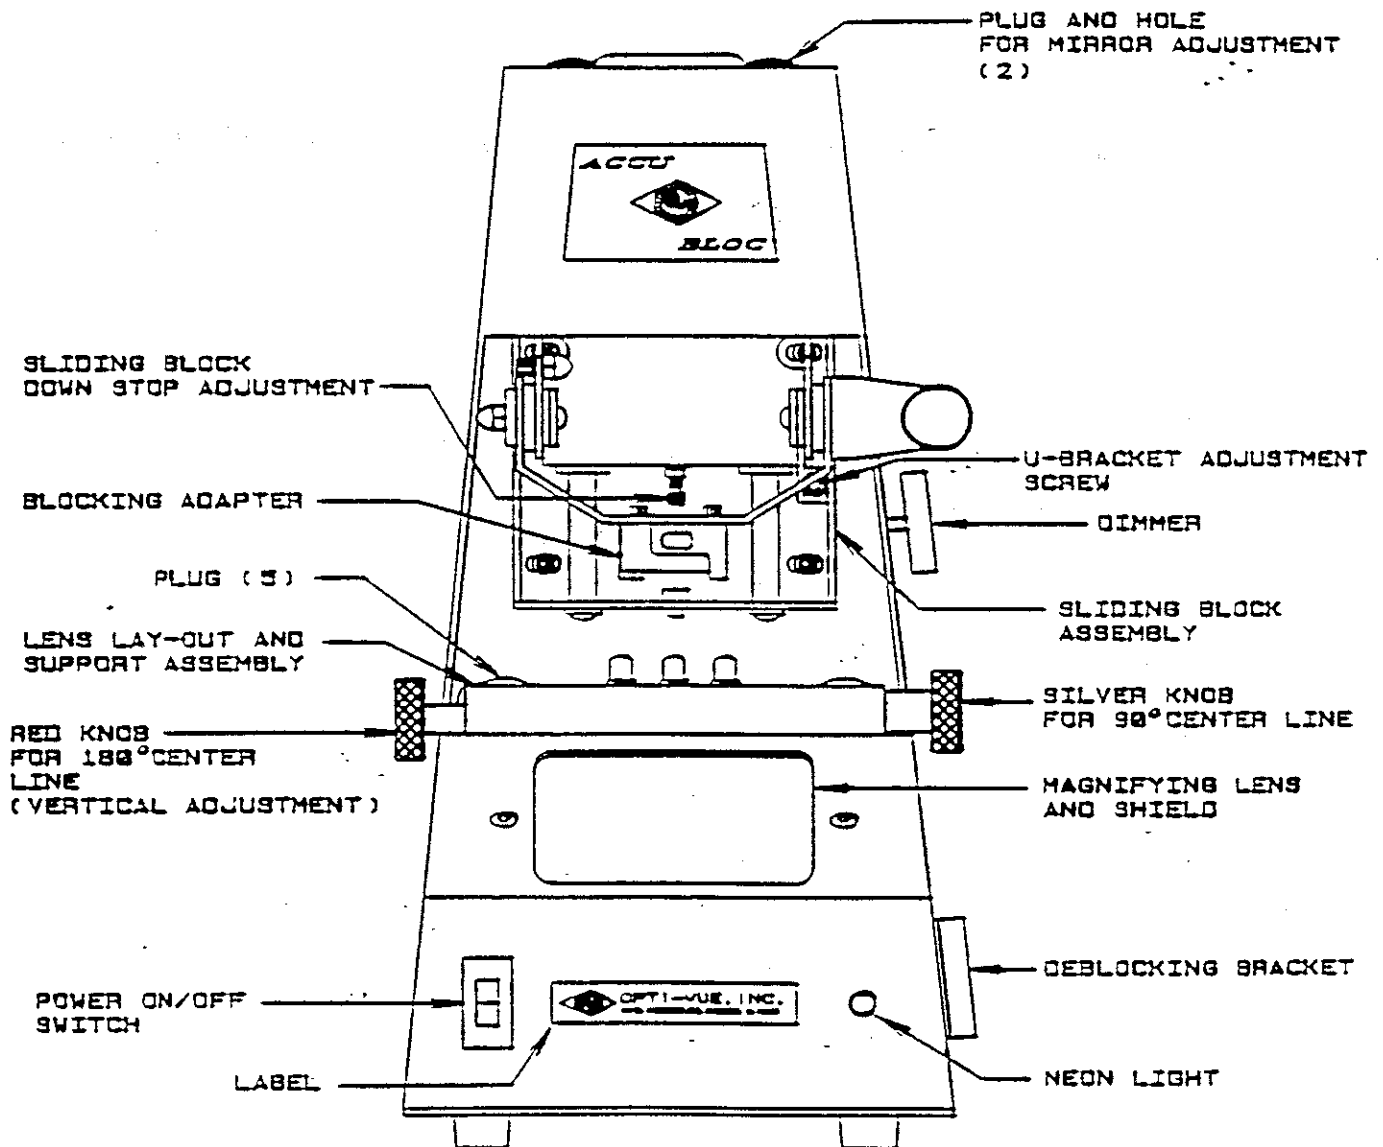

Figure 1-1. ACCU-BLOC components and adjustments
A. SLIDING BLOCK DOWN STOP ADJUSTMENT (Figure 1-1)